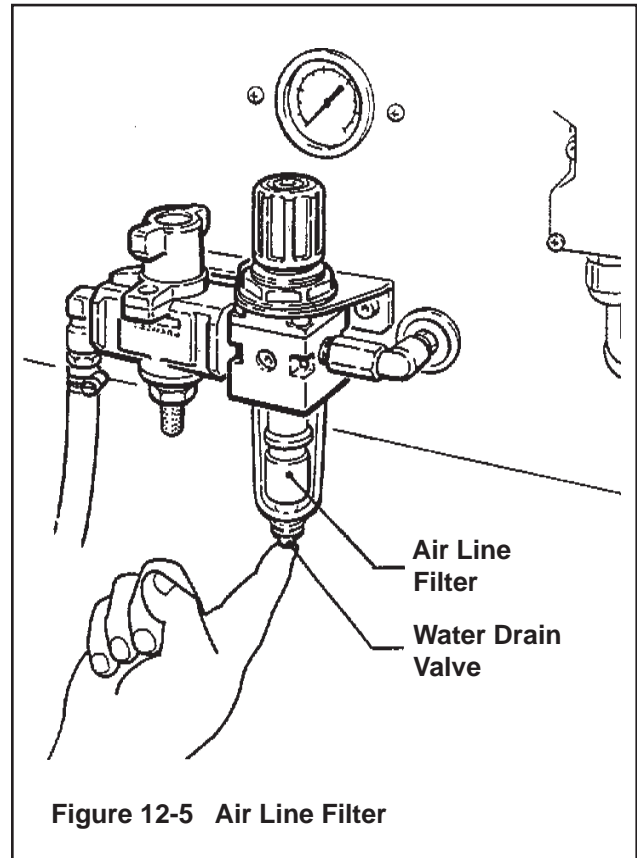

Figure 12-5 Air Line Filter
12.4 Air Line Filter (Figure 12-5)